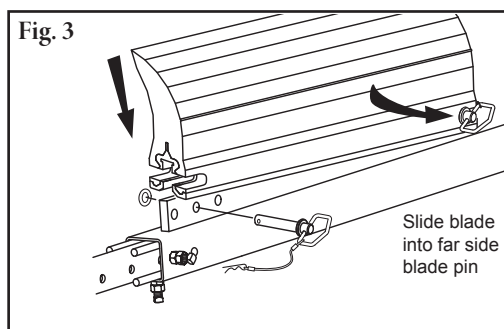

Fig. 4
4. **Reset the correct blade tension.** Refer to the charts for the spring length or PSI required for the belt width. For QMT lightly pull the pivot arm toward the end of the torque arm slot nearest the pole and turn the adjusting nuts until the required spring length is achieved (Fig. 4).